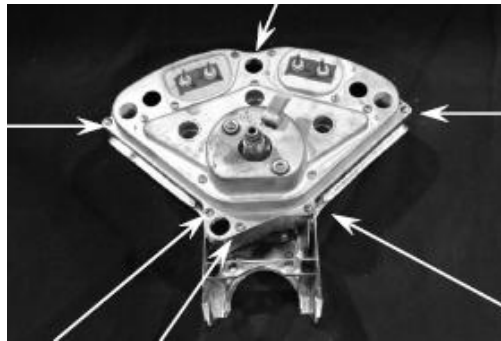

**Figure 1**
- 1) If using the original stock bezel, start by removing the instrument cluster from the dash. (figure 1)